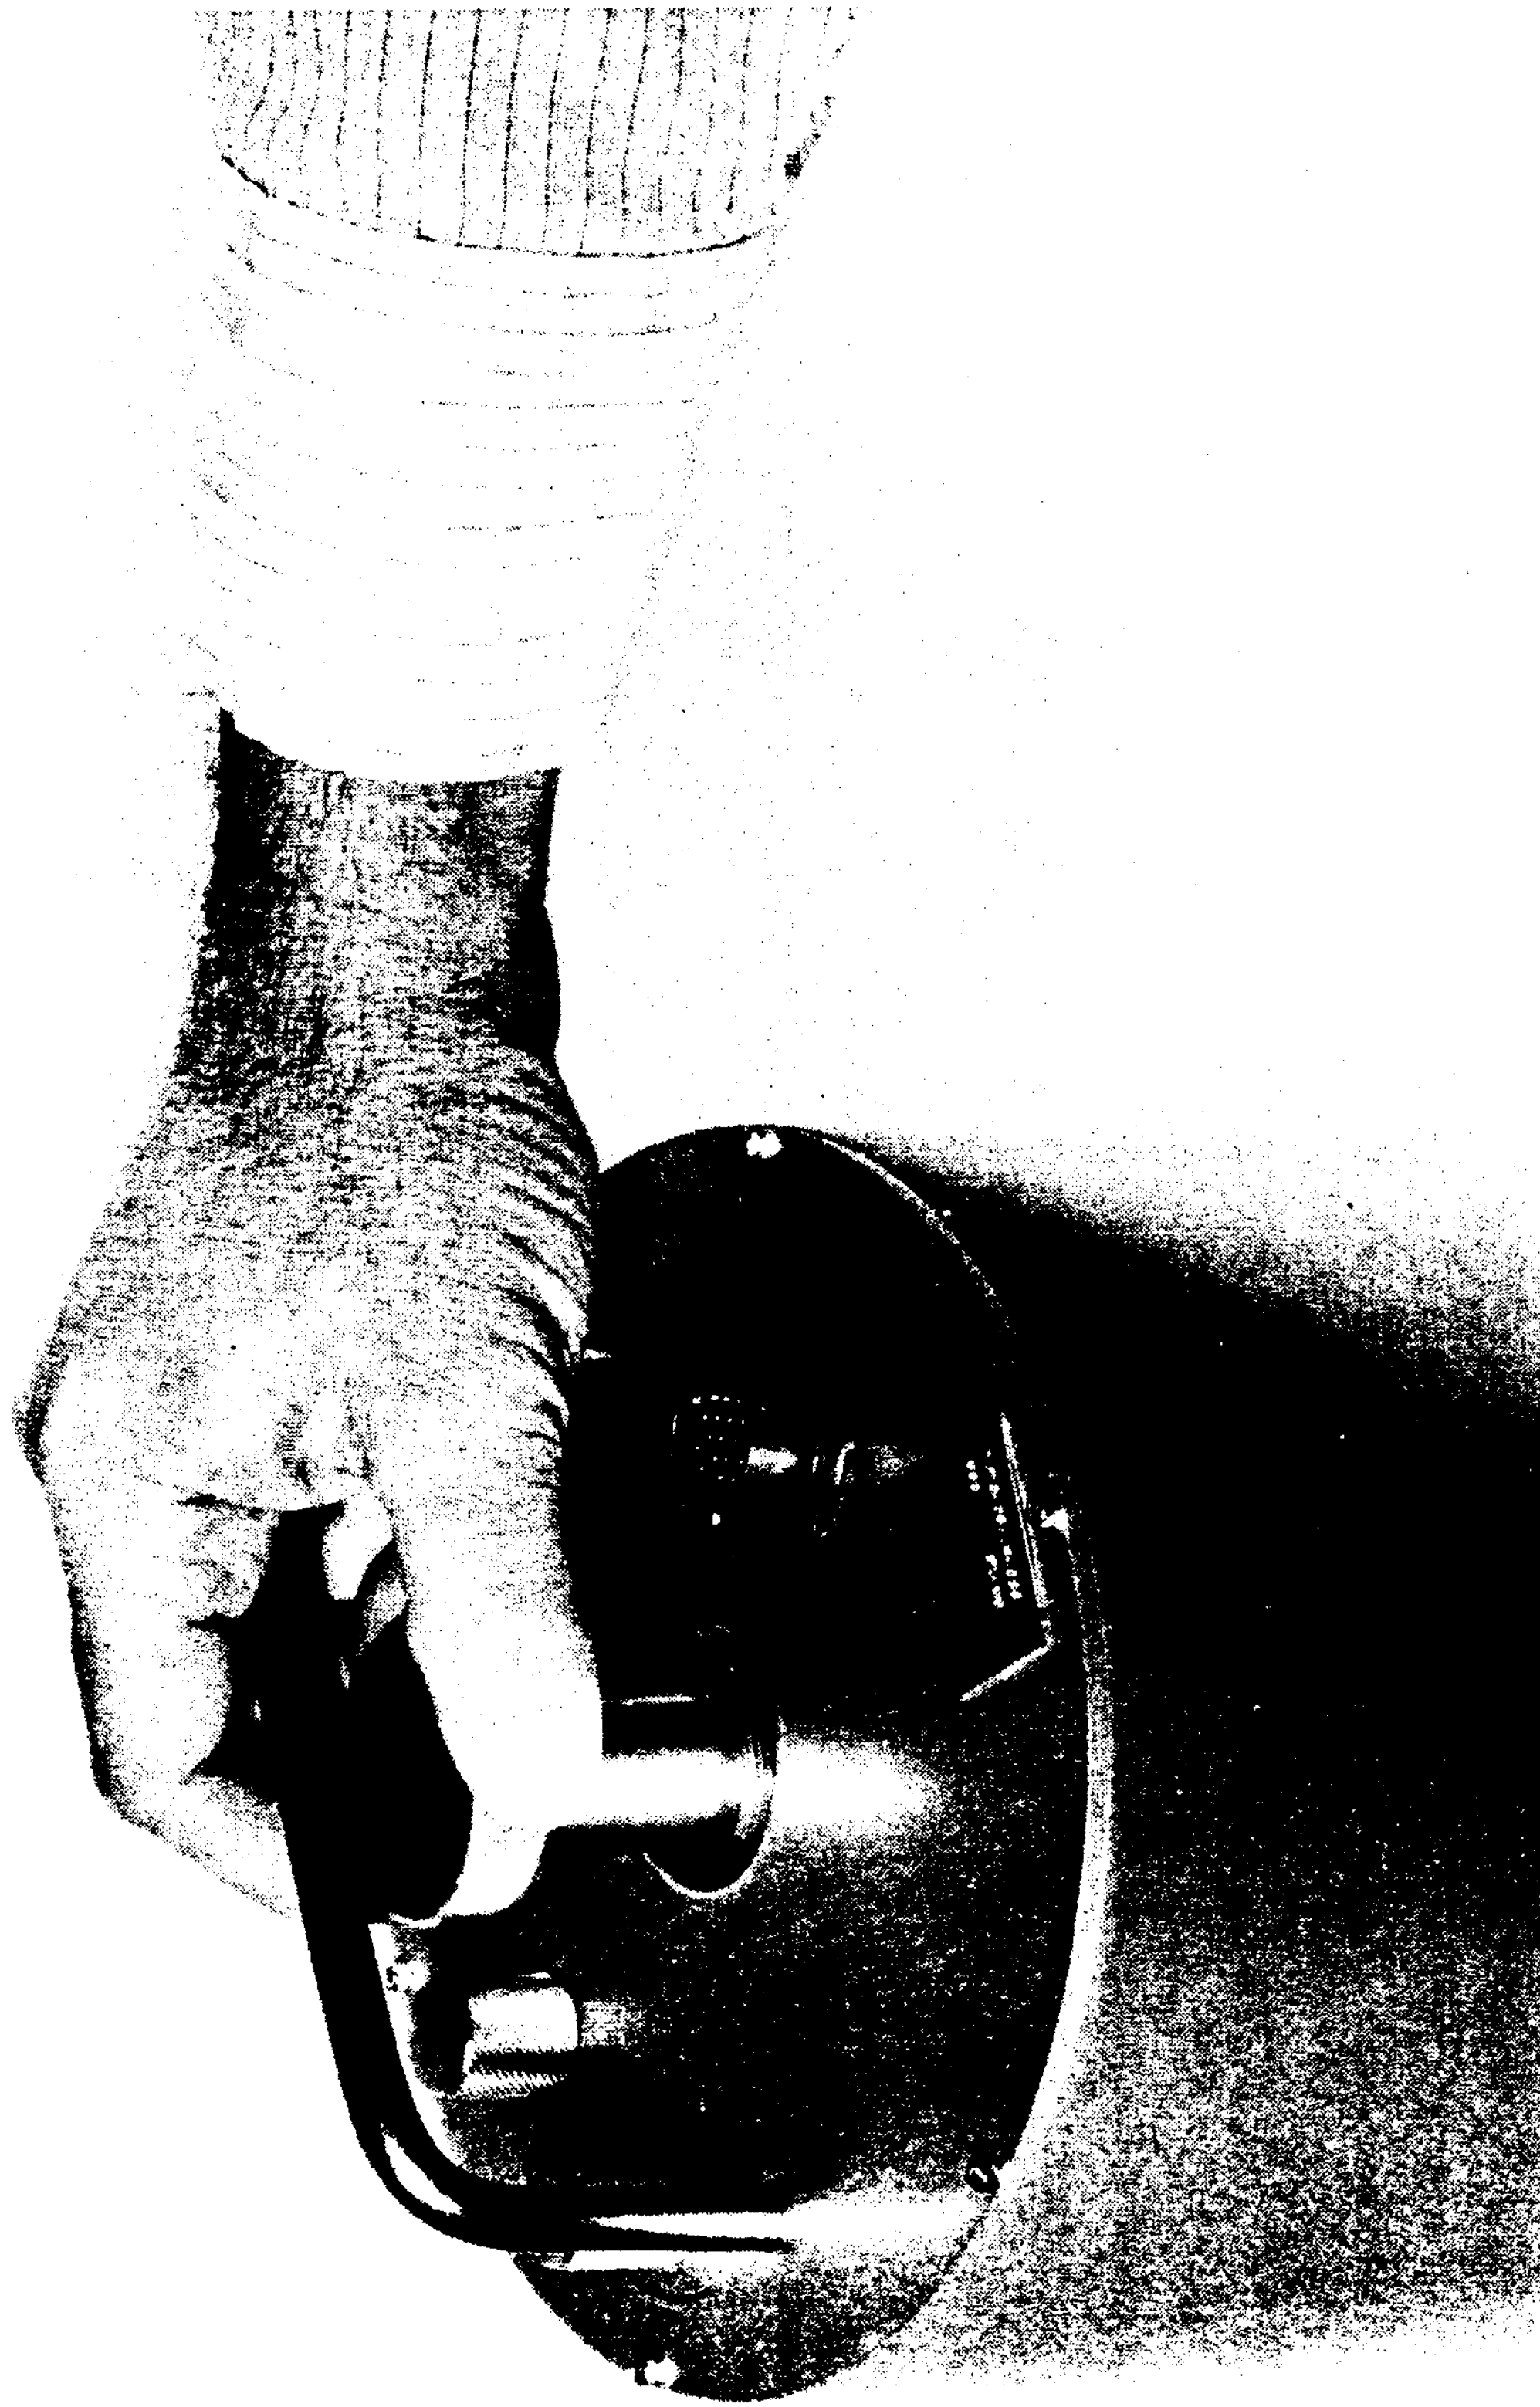

Figure 2-2. Removing the Shipping Plug
The seismometer is shipped with a shipping plug installed in the center of the top cover. See figure 2-2. This plug must be removed and replaced with Cap Assembly (item 37, figure 6-12) that is located in the Accessory Kit, Part Number 990-58098-0101 furnished with each instrument. To remove the shipping plug, turn counterclockwise until it is free, pull up on the plug and rotate it counterclockwise through the cover. If the plug is extremely tight at first, loosen the three 3/8 inch hex nuts (item 116, figure 6-12) at the bottom of the cover. Retighten the nuts after shipping plug is removed.